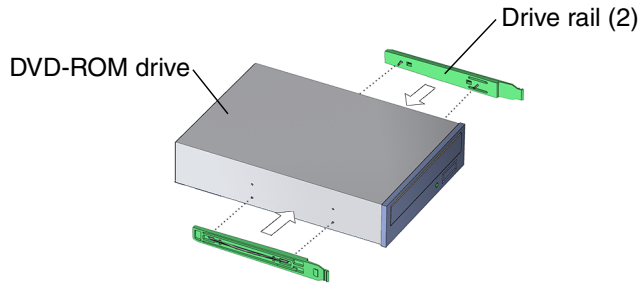

FIGURE 12-12 Installing Drive Rails
6. Snap the drive rails to the DVD-ROM drive, if needed (FIGURE 12-12).